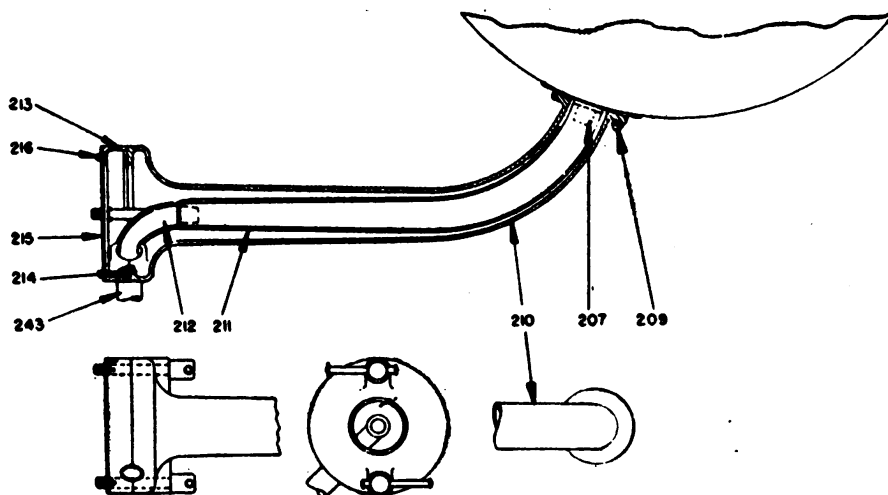

FIGURE 10.
28. To disassemble the single horn arm, and referring to figure 10: